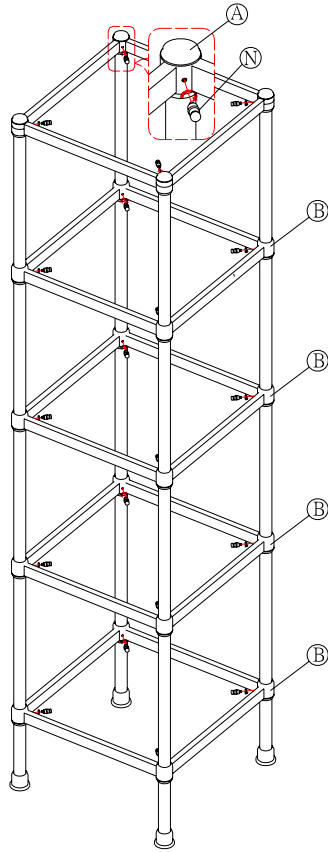

Fig. 4
6. Two people gently grasp the étagère and turn it to the upright position. Insert the shelf pegs (N) into the pre-drilled holes found in the four interior corners of the metal frames (Fig. 4).